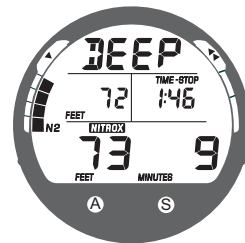

Fig. 59 - DS Main
Upon ascending to within 10 FT (3 M) below the calculated Deep Stop, a Deep Stop (DS) Main screen (Fig. 59) will automatically appear with the alpha graphics DEEP and STOP scrolling at the top of the screen (each On for 2 seconds).